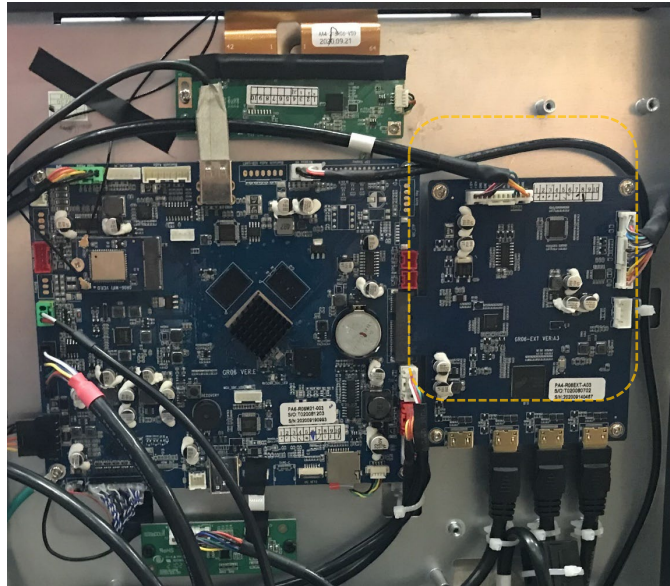

Figure 1
3. Use a Phillips screwdriver to remove the entertainment board (Fig. 1).